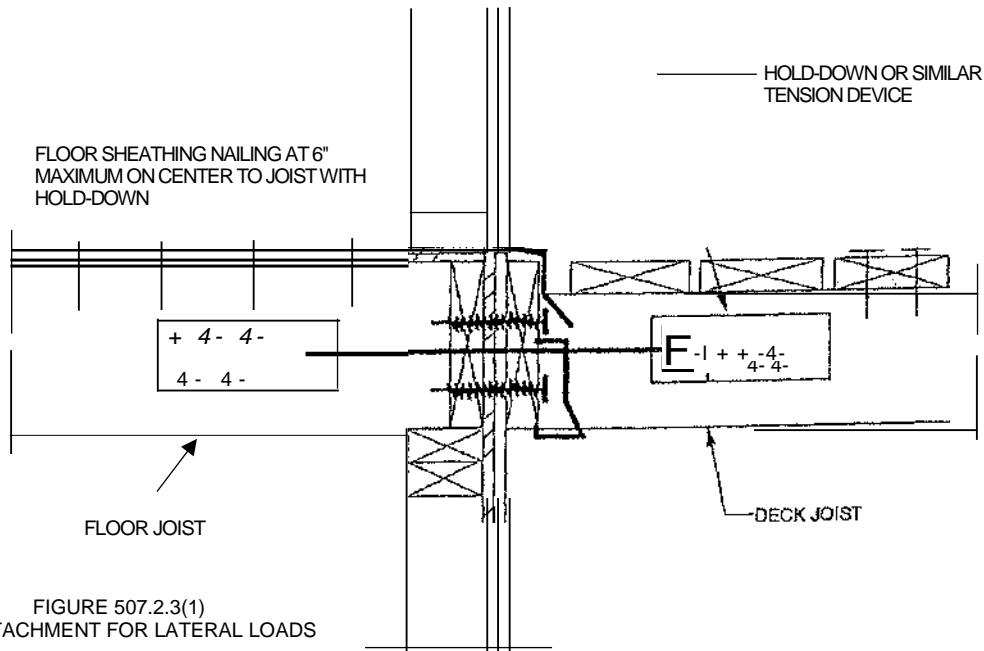

FIGURE 507.2.3(1)
The lateral load connection options shall be as follows. Where Figure 507.2.3 (1) is provided, hold down tension devices shall be installed in not less than two locations per deck, within 24 inches of the end of the deck. Where Figure 507.2.3 (2) is provided, the hold down tension devices shall be evenly distributed and installed in not less than four locations per deck and within 24 inches of the end of the ledger.